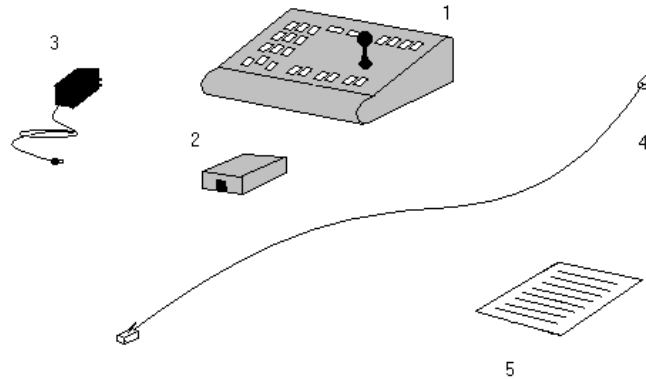
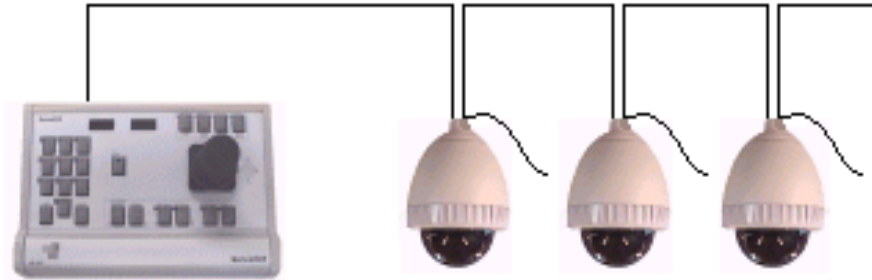

Figure 1
Figure 2
The JK-UC1 was created to be wired directly to a maximum of (32) receivers. This connections can be done based upon a Daisy Chain Configuration (fig.1), a Star Configuration (fig. 2), or any combination of the above. It is important to remember NOT to connect more than (32) receivers in a Star Configuration (parallel to one another).